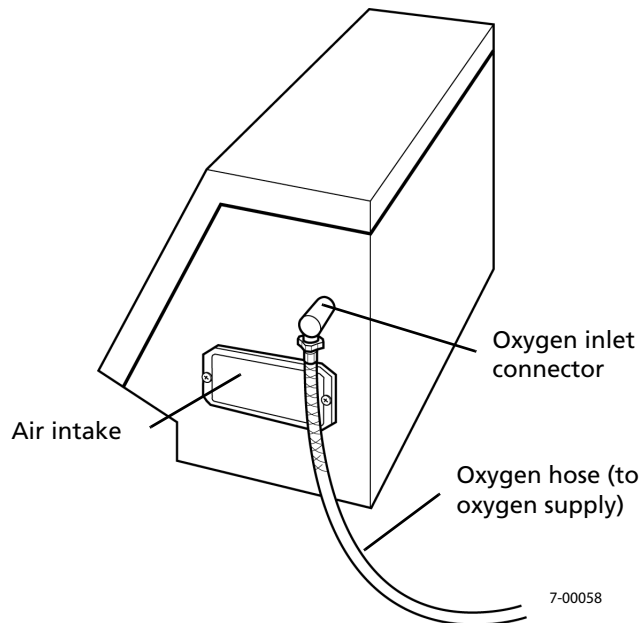

Figure 2-7. Connecting the oxygen supply
2. Connect the oxygen supply to the oxygen inlet connector on the side of the ventilator (see Figure 2-7). Make sure ventilator is configured with adapter(s) as required.